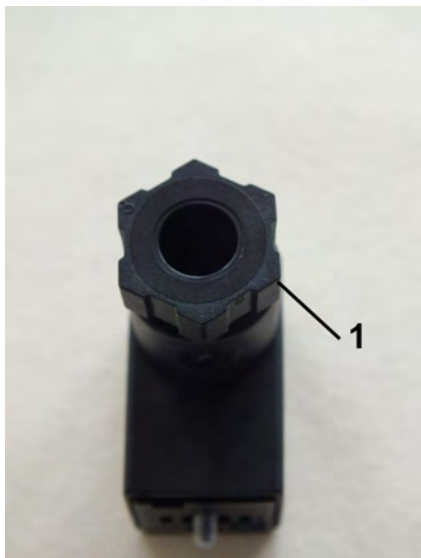

Fig. 25: Loosen the screw connection
4. ➔ Unscrew the screw connection (Fig. 25/1) by turning in the direction of the arrow
8. ➔ Retighten the screw connection (Fig. 25/1) by turning it to the right until tight